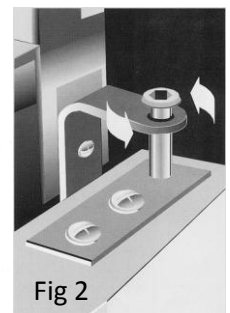

Fig 2
- Remove the M5 hex screw from the top hinge bracket and push down on the spring loaded cartridge top.(fig 2)